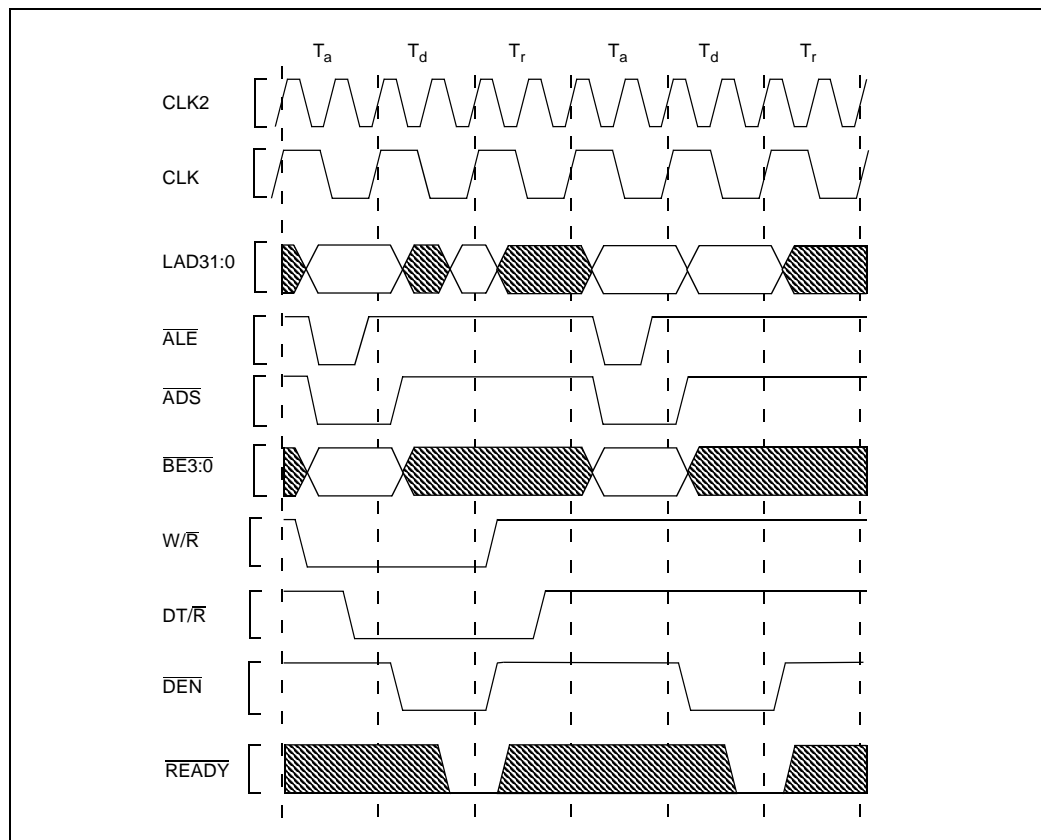
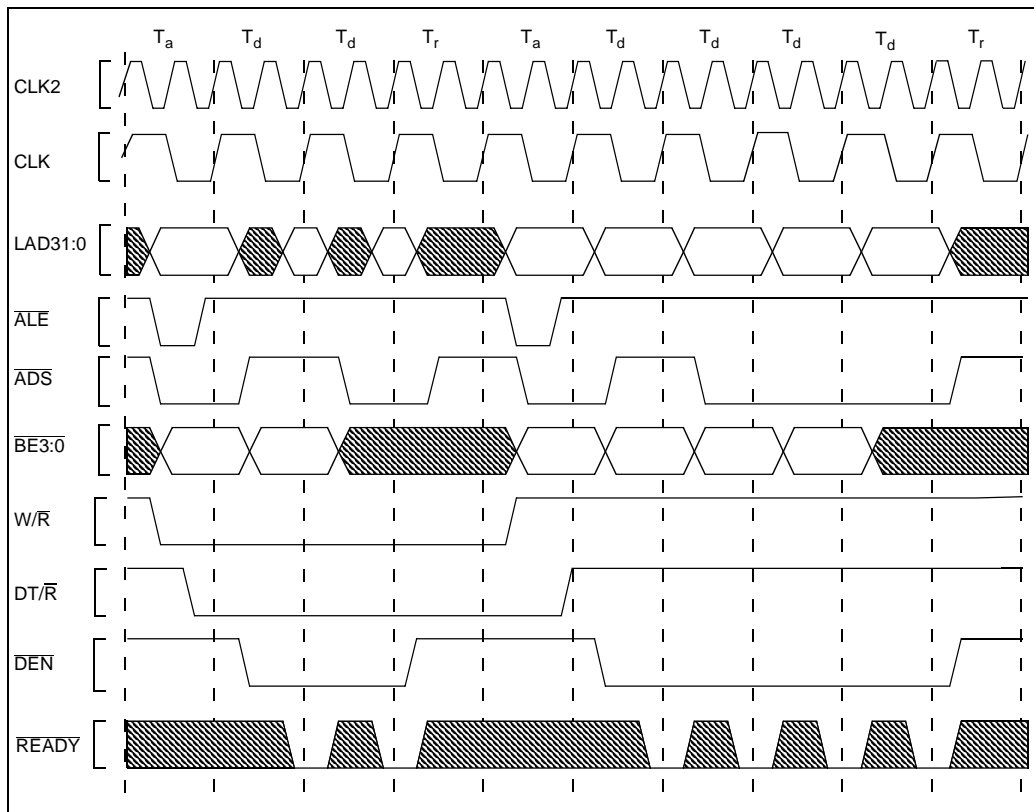
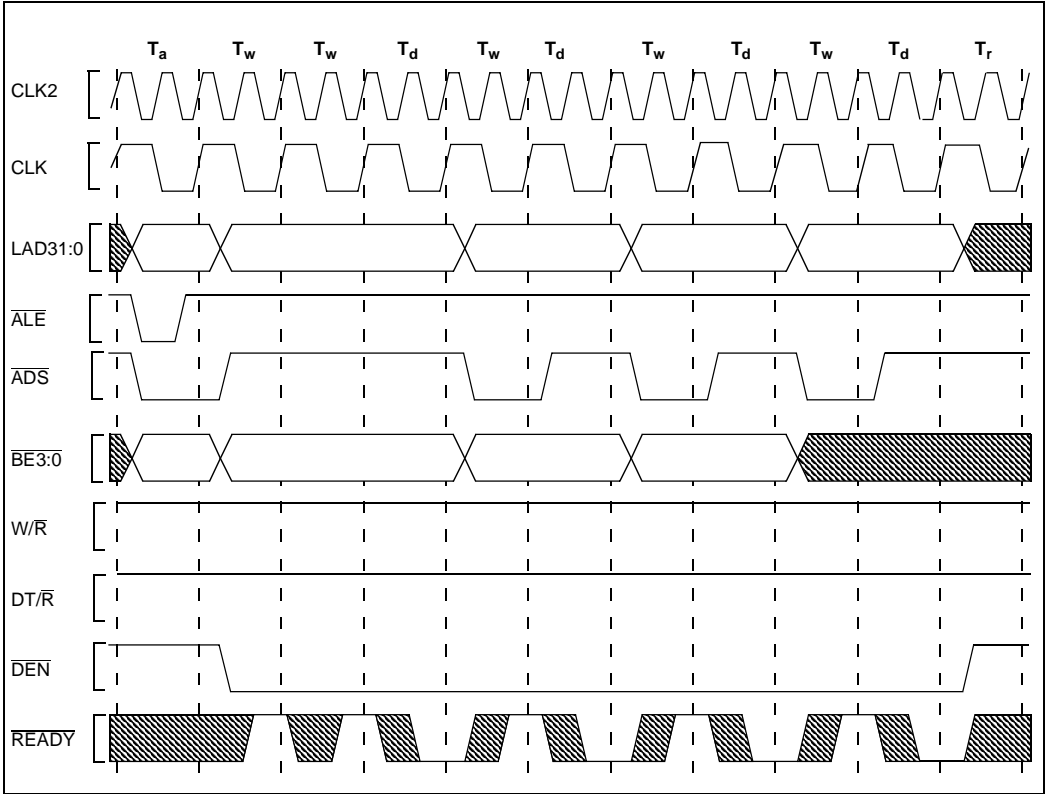

Figure 23. Non-Burst Read and Write Transactions Without Wait States
Figure 24. Burst Read and Write Transaction Without Wait States
Figure 25. Burst Write Transaction with 2, 1, 1, 1 Wait States
Maximum allowable ambient temperature (T_A) permitted without exceeding T_C is shown by the graphs in Figure 23, Figure 24 and Figure 25. The curves assume the maximum permitted supply current (I_{CC}) at each speed, V_{CC} of +5.0 V and a T_{CASE} of +85° C (PGA).
- Figure 23, Non-Burst Read and Write Transactions Without Wait States (pg. 30)
- Figure 24, Burst Read and Write Transaction Without Wait States (pg. 31)
- Figure 25, Burst Write Transaction with 2, 1, 1, 1 Wait States (pg. 32)